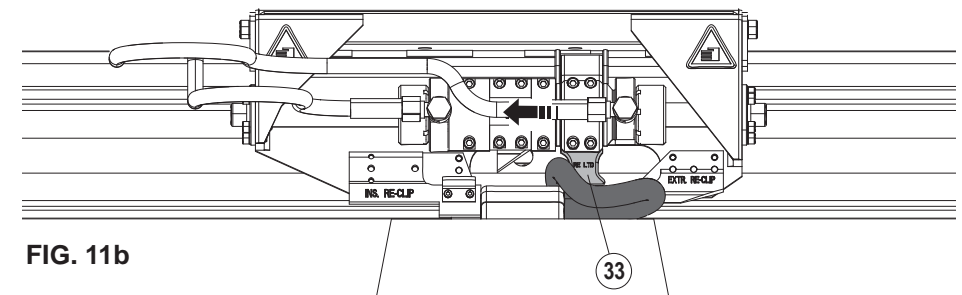

FIG. 11b
- Pull the control lever to the right "INSERT" position to gradually move the teeth forwards with consequent insertion of both rail clips (see Fig. 11b). When performing the insertion operation, the teeth of each clamp (34) will move in opposite directions.